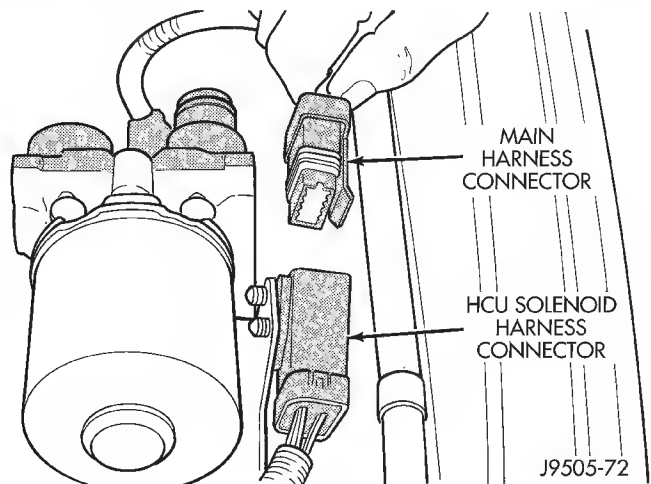

Fig. 19 Disconnecting HCU Solenoid Harness
(7) Disconnect HCU solenoid harness from main harness (Fig. 19).
(2) If HCU mounting bracket was not removed, press solenoid harness connector fasteners into mounting bracket.
(3) Connect HCU pump motor and solenoid harnesses (Figs. 19 and 20).
(4) Connect brakelines from front/rear brakes to HCU. Start brakeline fittings in HCU ports by hand